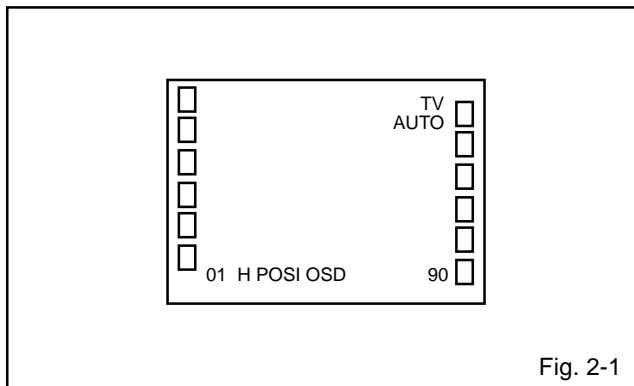

Fig. 2-1
2. Press the VOL. DOWN button on the set and the channel button (9) on the remote control for more than 2 seconds to display adjustment mode on the screen as shown in Fig. 2-1.